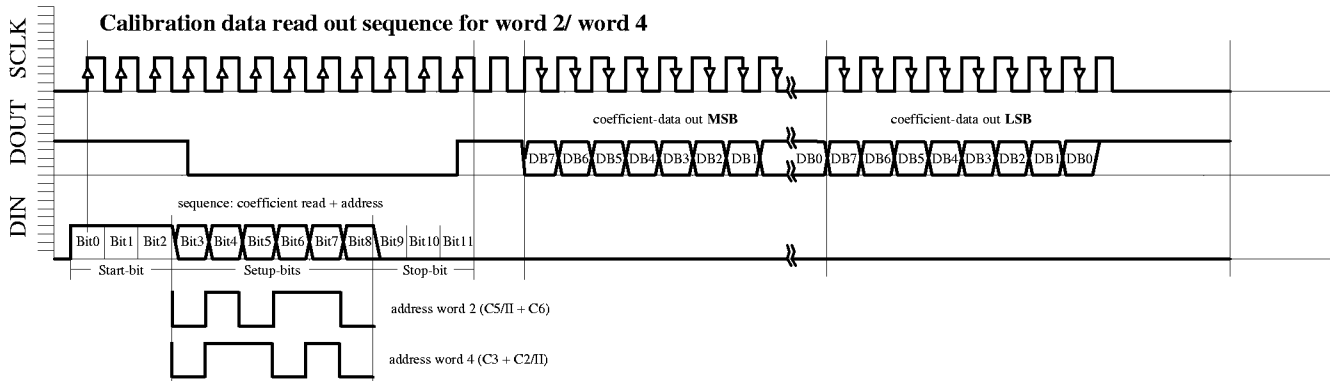

Figure1d
- Calibration data read-out sequence for word 2 and word 4 (Figure1d)